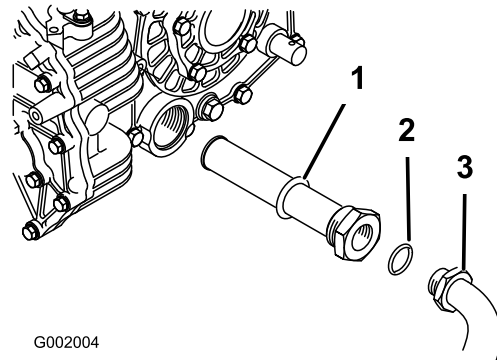

Figure 40
5. Remove the hydraulic hose and 90° fitting (Figure 40).